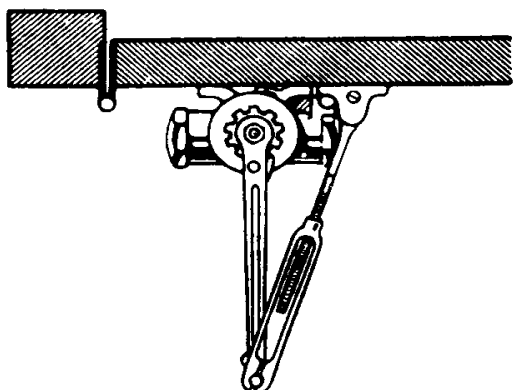
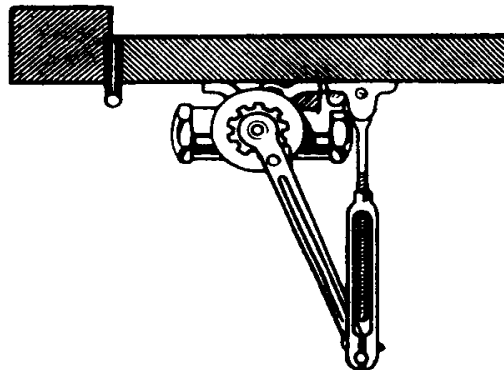

Fig 3.
Fig 4.
- 2) Adjust the closing power to overcome latching action or air pressure resistance, adjust the threaded of the arm to match Fig 3. Fig 4 will effectively delete any latching action.